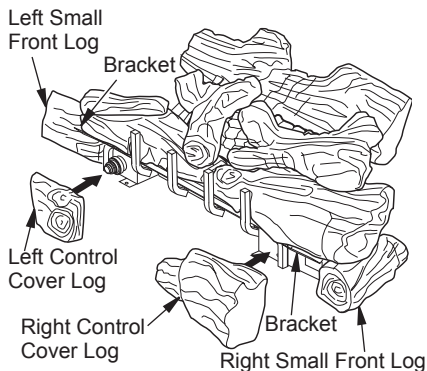

Figure 31 - Installing LBG36-SM Model Control Cover Logs
7. For LTF36-SM, the front right and left logs are longer and are supported with brackets on each end (see Figure 31, page 20). Place left and right small front logs under left bracket and beside right bracket.